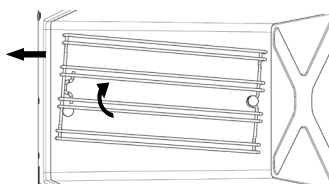

Fig. 74
- Lift the side rail assembly at the front and take it out of the oven (Fig. 74).